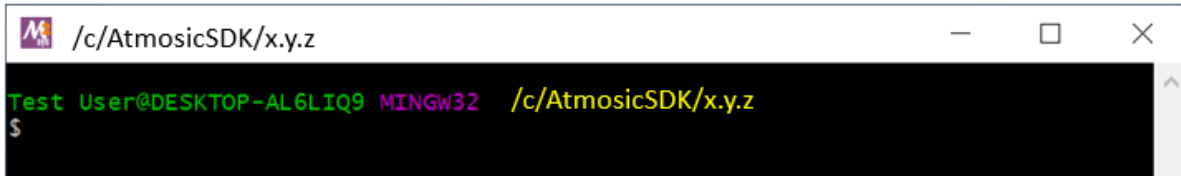

Figure 17 - Atmosic SDK Path
- Figure 17 - Atmosic SDK Path
The MSYS2 shell will open and redirect the working path to the Atmosic SDK path as shown in Figure 17.